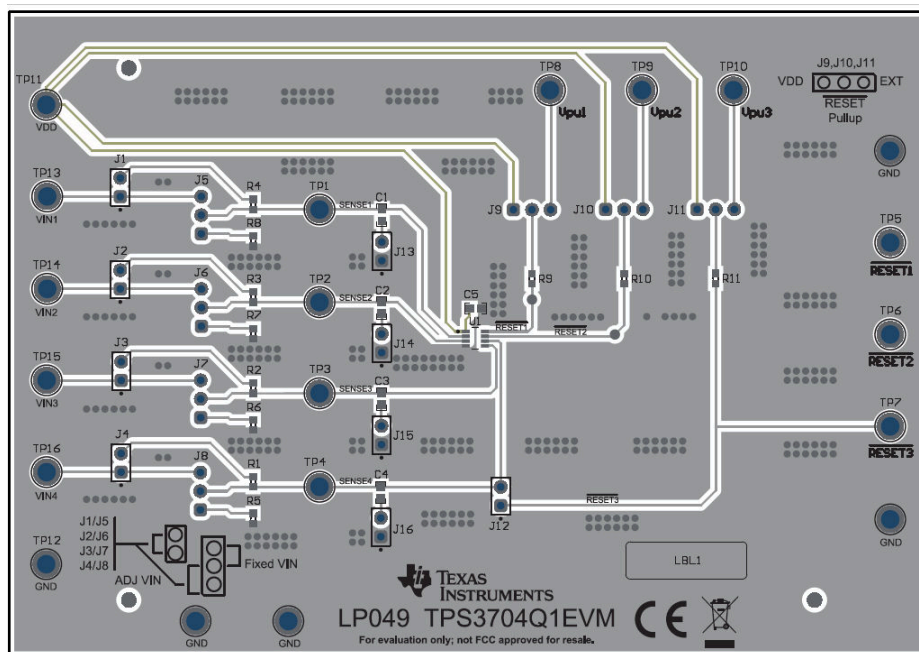

Figure 3-1. Layout—Top
Table 3-2 lists the jumpers on the TPS3704Q1EVM. As ordered, the EVM will have sixteen (16) jumpers installed. Figure 3-1 is provided as visual aid.